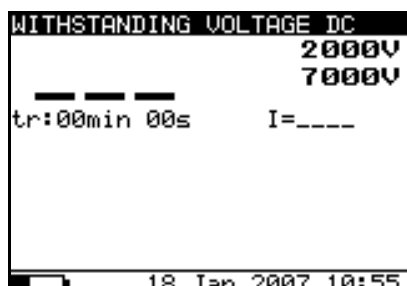

Fig. 43: Initial screen withstanding test
2. Select with arrow keys ▼ or ▲ the item “WITHSTANDING VOLTAGE DC” on main menu and confirm with **SELECT** key. The screen of Fig. 43 is shown by the meter
2. Select with arrow keys ▼ or ▲ the item "WITHSTANDING VOLTAGE DC" on main menu and confirm with **SELECT** key. The screen of Fig. 43 is shown by the meter